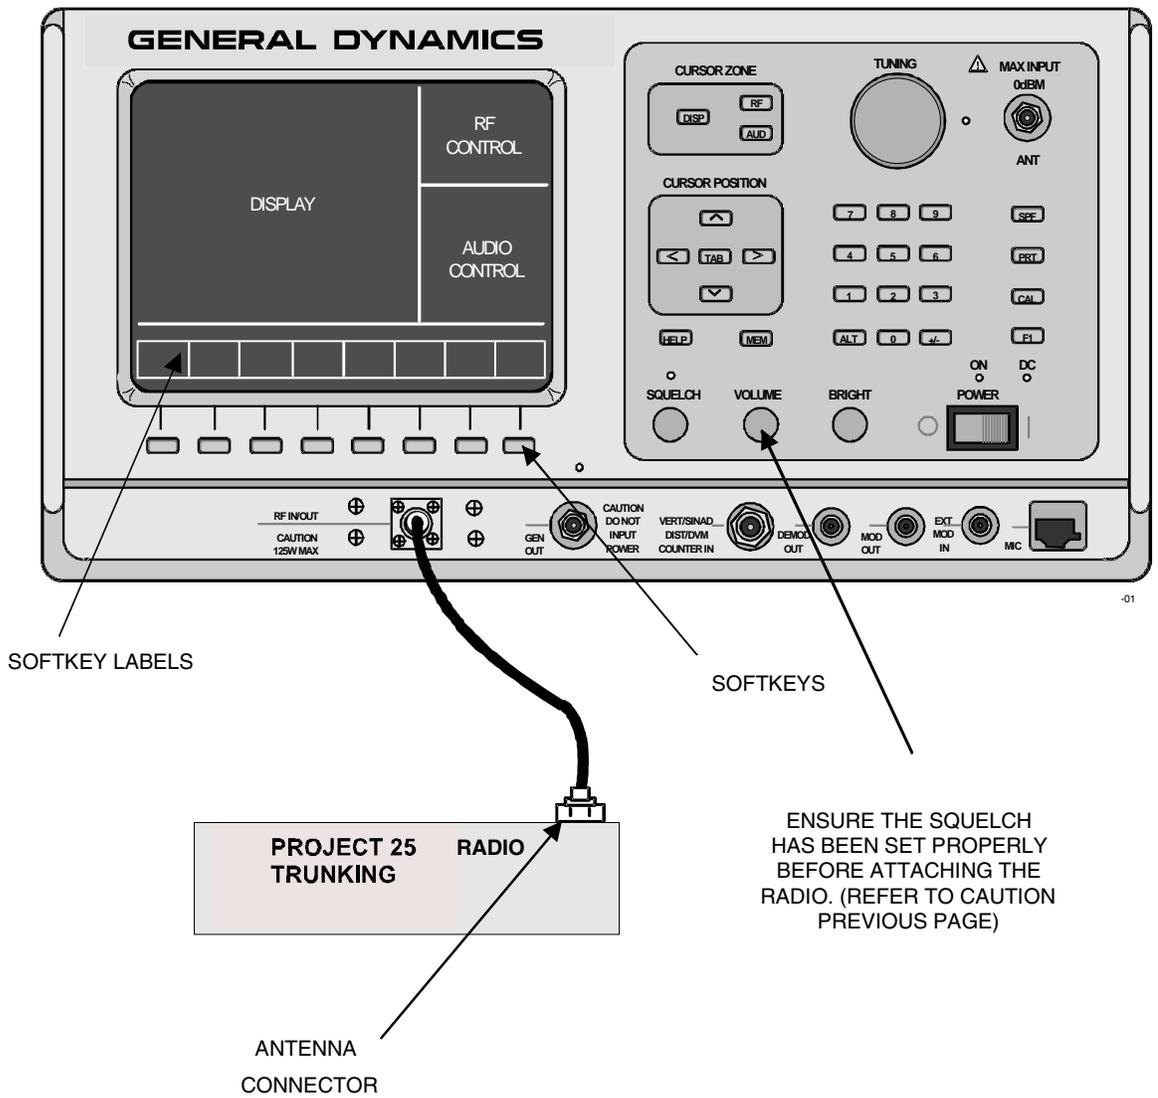

Figure 24-8. Test Setup
Use a 50-ohm BNC cable and an N to BNC adapter to connect from the RF I/O port of the R2670 or R2625 analyzer to the antenna port of the radio as shown in figure 24-8.
10. Connect the radio under test to the RF I/O port as shown in figure 24-8.